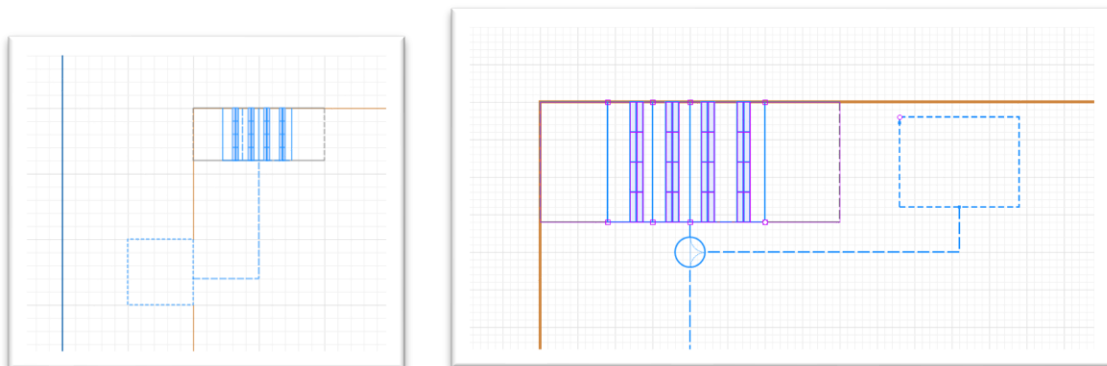

Figure 5. Network Receiving Dock (Left) and ForkliftParking (Right).
Step 3. Creating the Network—In the *Process Modeling Library* in the *Space Markup* section, observe all the ways to draw up our network. Use the *Rectangular node* to create a *rectangular node* named “receivingDock”, then double click *Path* to create a *path* from the receivingDock to our *storage* area. Of note, agents can usually move bidirectionally on a path. Double-click on the *path* or *rectangle node*, the line color should change to cyan, showing what is connected to the network. Then, add another *square node* to the network with a *path* as seen below. Name this area “forkliftParking”. See Figure 5 for reference.